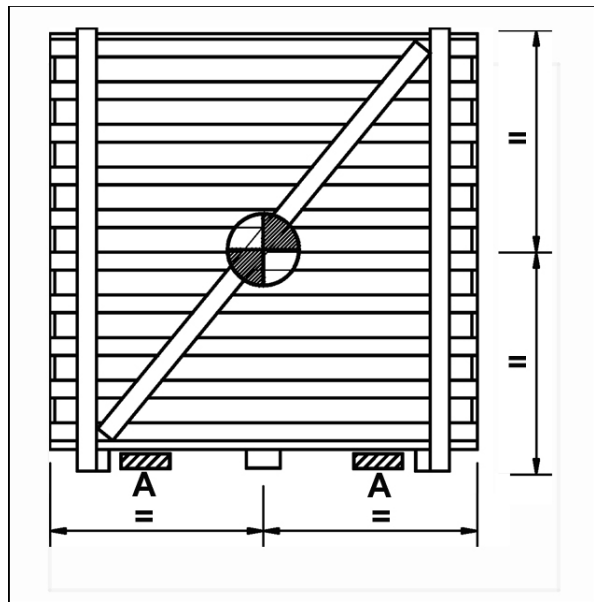

fig. 3
To move the machine when crated (fig. 3) use best a forklifts, introducing the forks (A) in the space between the base of the packaging and the floor, using the maximum width permitted by the crating. In those cases in which this transport method is not possible and the machine must be lifted by a crane: